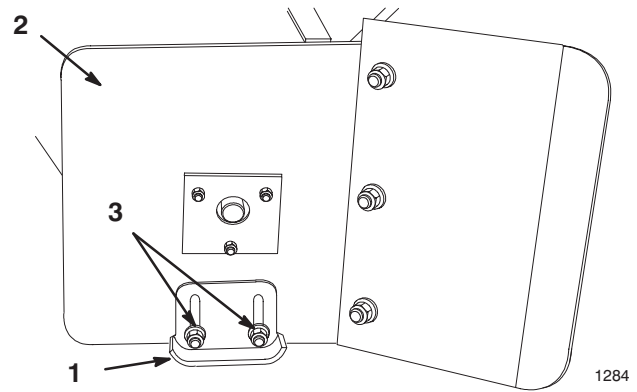

Figure 32
- Loosen the nuts securing skids to the housing until the skids slide up and down easily (fig. 32).
- Raise or lower the skids equally on both sides, to obtain level scraping action, then tighten the nuts (fig. 32).